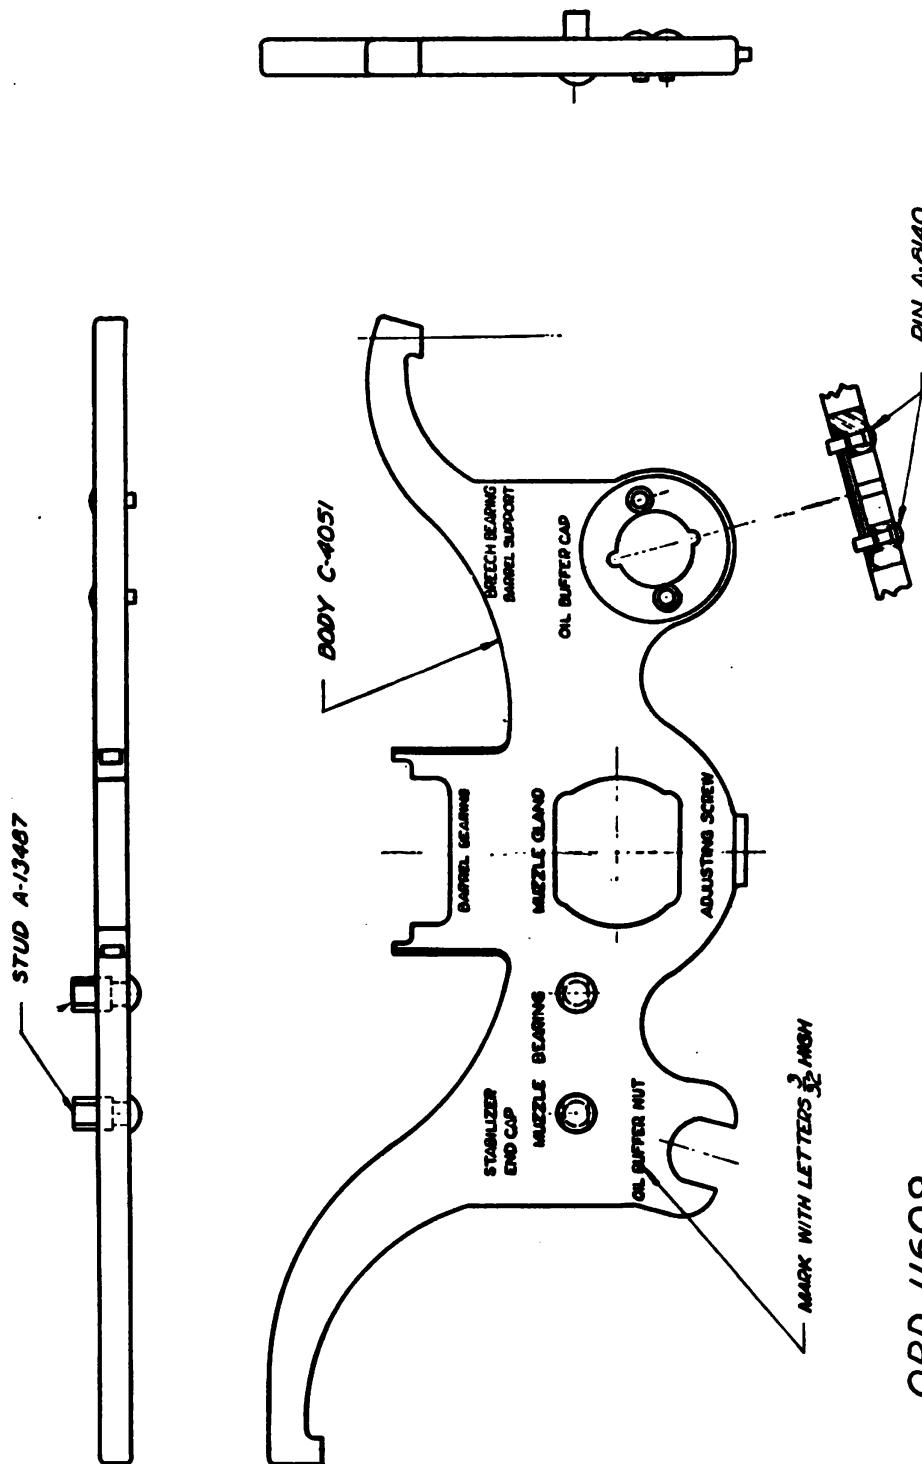

FIGURE 14.—Wrench, combination, M2.
*j. Wrench, combination, M2.*—This is a special combination tool (fig. 14) for disassembling, assembling, and making adjustments of the gun. Each opening and projection is marked to show its purpose.